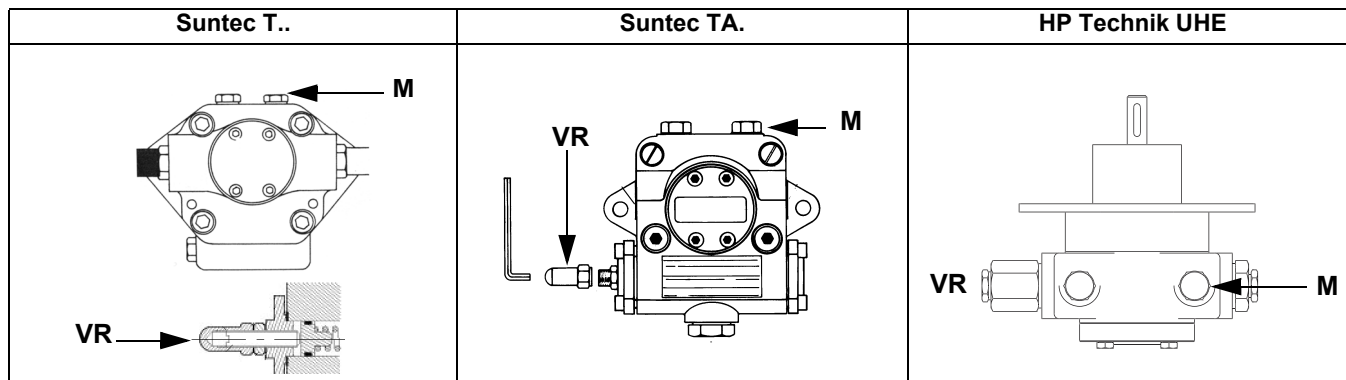
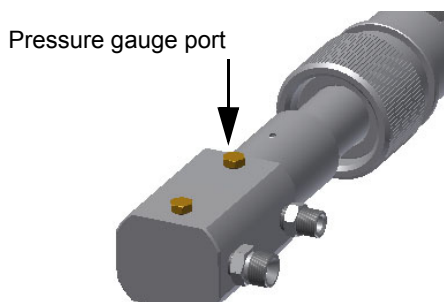

Fig. 10
Fig. 11
**ATTENTION:** To set the outlet pressure of the VD-R regulator, act on the adjustment ring nut (Fig. 10)
The position of the indicator in the dial indicates the value of the outlet pressure calculated as a percentage of the full scale of the PS sensor (Fig. 11)
- 3 bleed the air from the **M** pressure gauge port (Fig. 10) by loosening the cap without removing it, then release the contactor.
- 5 Only if necessary, adjust the supply pressure as follows (see related paragraph); insert a pressure gauge into the port shown on Fig. 11 and act on on the pump adjusting screw **VR** (see Fig. 10) as to get the nozzle pressure at 20bar (Monarch or Fluidics nozzles - see page 44-38).